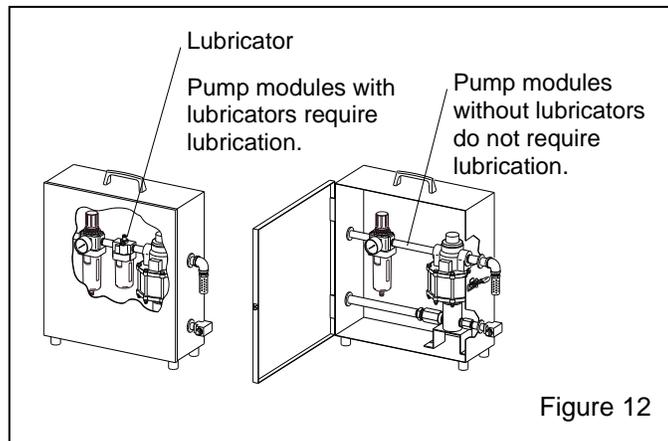

Figure 12
2.6.1 Water pumps used with current injector system are pre-lubricated and do not require additional lubrication. Systems that require lubrication are identified by an inline lubricator located within the pump-module enclosure, as shown in Figure 12. Open the enclosure door to access the lubricator.